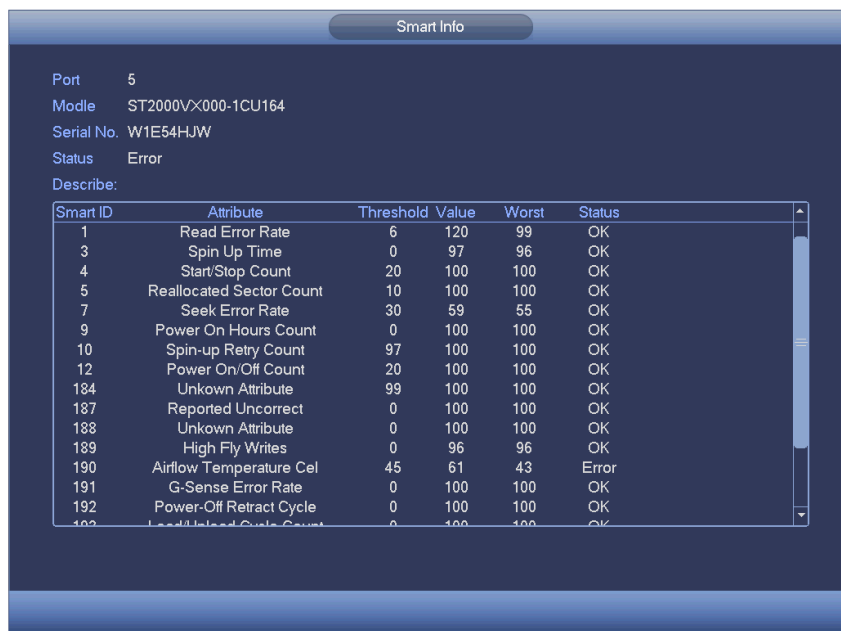

Figure 4-65
- SMART: Display HDD information. See Figure 4-65.
Double click one HDD information; you can see the HDD SMART information. See Figure 4-65.